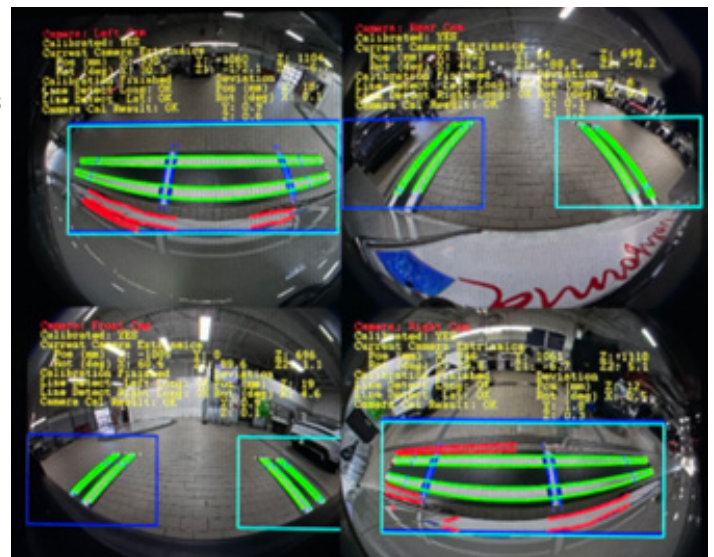

Figure 1
Technicians find the Surround View (Real Top View (RTV)) camera calibration is unsuccessful during diagnosis or repair of an affected vehicle. The contents of the PCM display "Debug Screen" (*Figure 1*) for calibration of the surround view cameras is unclear.
- **Green lines** must be aligned lengthwise (longitudinally) with the lines on the calibration mat and completely highlighted (*yellow ovals in Figure 1 and Figure 3 indicate where the green lines are not completely highlighted*)